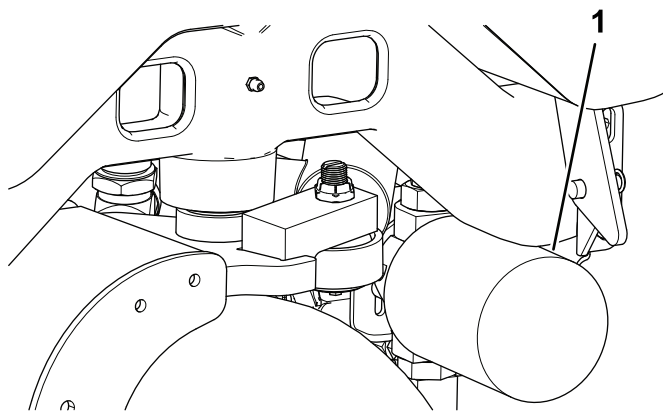

Figure 74
2. Disconnect the hydraulic line (Figure 73) or remove the hydraulic filter (Figure 74) and let the hydraulic fluid flow into a drain pan.
4. Place a drain pan under the filter (Figure 74) and remove the filter.